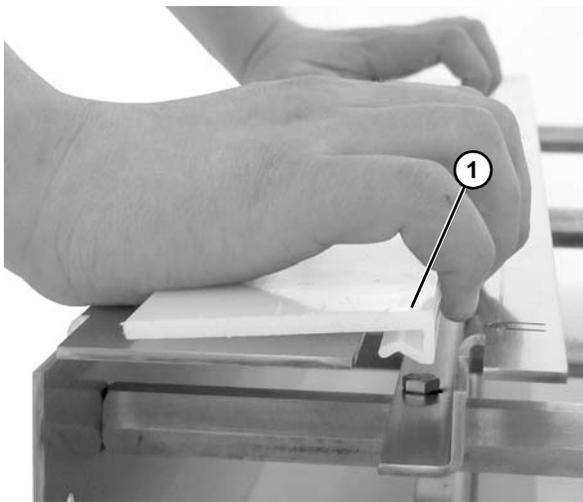

Figure 36
3. Install wear strips (**Figure 36, item 1**).